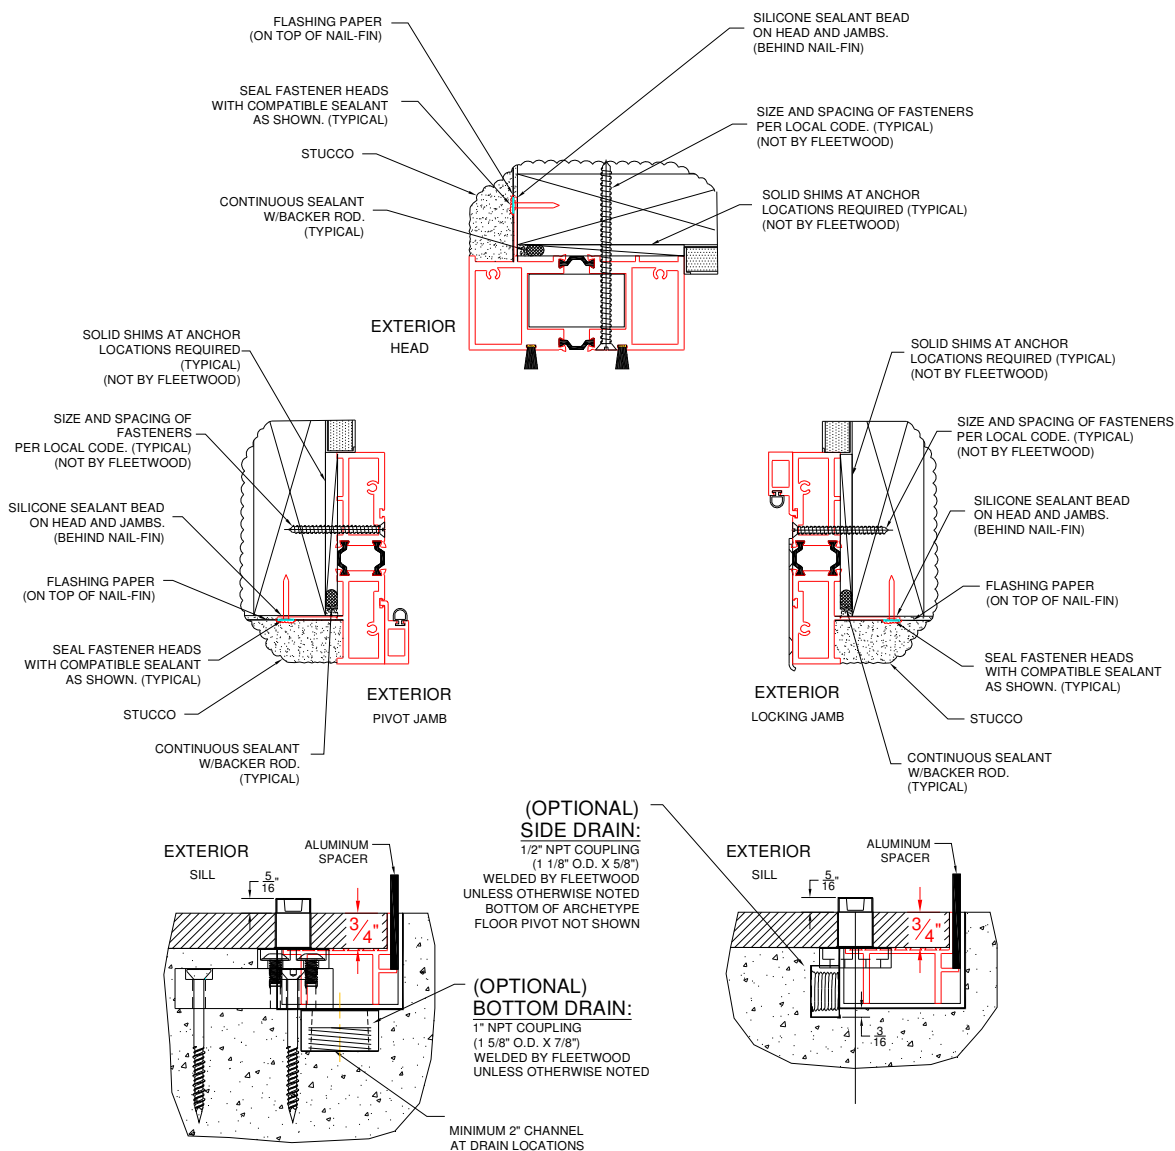

Figure 7:
8. To complete the panel installation, apply backer rod and a complete bed of sealant to the entire exterior and interior joint between the frame and the building structure. Tool the sealant to eliminate bubbles, voids and / or breaks and ensure a completely watertight seal (Figure 7,9).